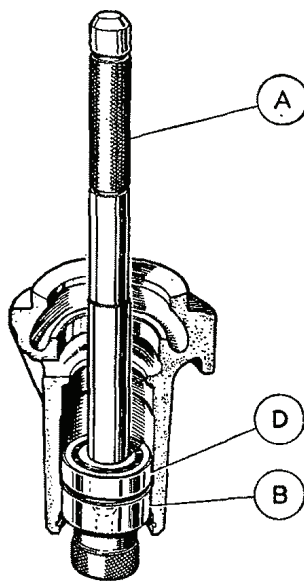

Fig. C.6
Position the dummy front bearing (B) in the pump body and screw the driver into it (Fig. C.6). The rear bearing is now aligned with the housing bore and may be tapped out and the felt washer and retainers removed.